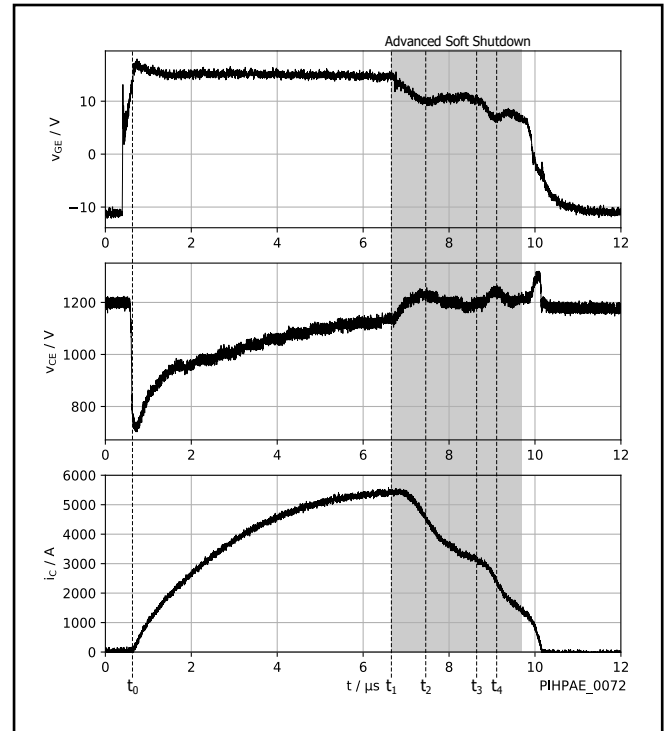

Figure 3. Example waveform of Advanced Soft Shut Down (ASSD)
In the event of a short-circuit condition, the gate voltage is increased due to the high dv_{CE}/dt between the collector and emitter terminals of the driven power semiconductor. This dv_{CE}/dt drives a current through the Miller-capacitance (capacitance between the gate and collector) and charges the gate capacitance, which eventually leads to a gate-emitter voltage larger than the nominal gate-emitter turn-on voltage. In consequence, the short-circuit current is increased due to the transconductance of the power semiconductor. To ensure that the gate-emitter voltage stays close to the nominal turn-on voltage each MAG features a gate-clamping circuitry. The gate clamping provides a voltage similar to V_{VISO} to the gate, i.e. 15 V. As the effective short-circuit current is a function of the gate-emitter voltage the short-circuit current is limited. This is shown in Figure 3 in the time period from 0.5 μ s to 6.2 μ s, where the short-circuit current asymptotically increases toward a flat plateau. As a consequence, the energy dissipated in the power semiconductor during the short-circuit event is reduced, leading to a junction temperature within the short-circuit safe operating area (SCSOA) limits and enabling a safe turn-off of the device.
- In the first step, the gate-emitter voltage is decreased to a defined level which is controlled by the closed-loop feedback (Figure 3, from t_1 to t_2).
- The defined level of the gate-emitter voltage is kept steady to ramp down the collector current smoothly, i.e. with lower di_c/dt , until the gate charge profile of the power semiconductor has reached the end of the Miller plateau. The end of the Miller plateau is detected by evaluating the gate current (Figure 3, from t_2 to t_3).
- The gate-emitter voltage is then reduced to its end value, following a given reference value (Figure 3, from t_3 to t_4).